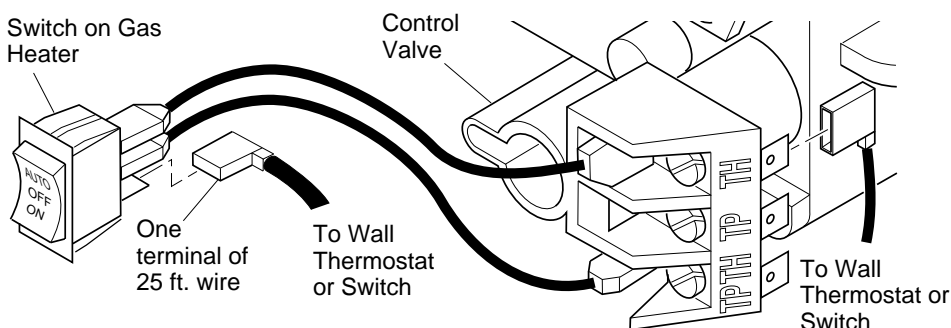

Figure 33 - Connecting Wire Terminals
1. Connect one terminal of 25 ft. wire to bottom contact of switch (see Figure 33, page 17).
2. Connect remaining wire terminal to the "TH" terminal on the control valve. Make sure that wire terminals are in the positions on your unit as pictured in Figure 33 on page 17. If wires are not "crossed" the thermostat will not work.
1. Connect one terminal of 25 ft. wire to bottom contact of switch (see Figure 33).
2. Connect remaining wire terminal to the "TH" terminal on the control valve. Make sure that wire terminals are in the positions on your unit as pictured in Figure 33. If wires are not "crossed" the thermostat will not work.